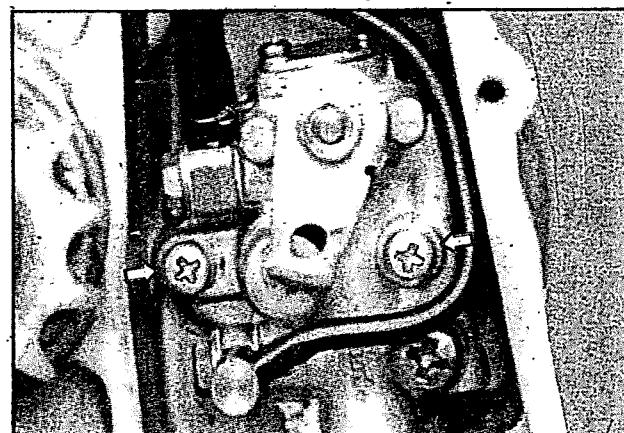

Fig 3.101
- With the pump properly seated, fit and tighten its two retaining screws (fig 3.101)